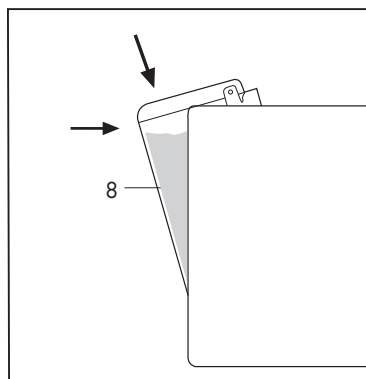

Fig. 3
- Replace the cover and insert the tank (8) by pushing it against the machine body so that the base of the tank rests properly on the water valve. **(Fig.3)**